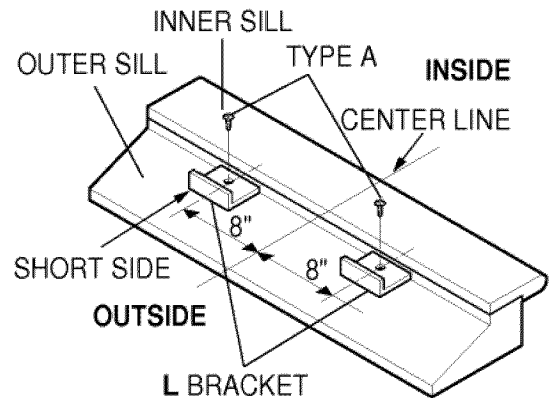

Fig. 9
- b. The bracket helps to hold unit securely in place. Be sure to place bracket edge flush against back of inner sill. See Fig. 9.
- a. Carefully lift the air conditioner and slide it into the open window. Make sure the bottom guide of the air conditioner drops into the notches of the L bracket. See Fig. 9.